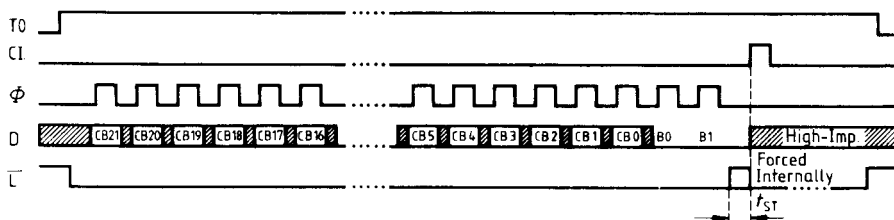

Figure 2b Erasure of Entire NVM
b) Erasure of entire NVM (figure 2b)